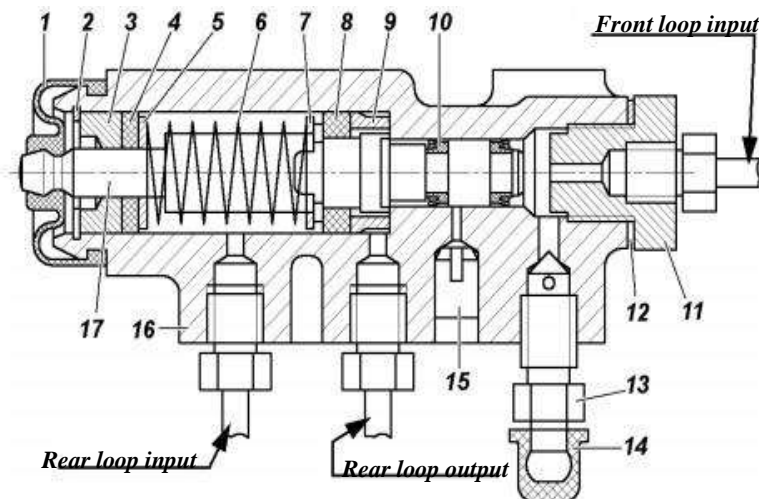
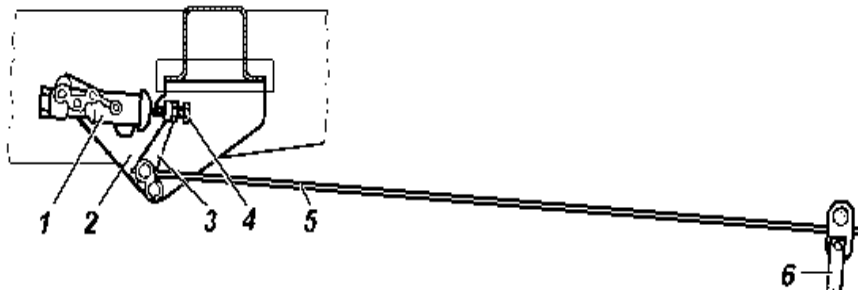

Fig. 9.30 Pressure regulator:
Fig. 9.31 Pressure regulator actuator:
Pressure regulator. Vehicles that are not equipped with anti-lock brakes have a mechanical pressure regulator acting on the rear brakes (fig. 9.30), which provides optimal distribution of braking forces on the axles of the vehicle and prevents the rear wheels from advanced locking. During service, check that the pressure regulator is operating properly. Clean any dirt from the regulator and check that it is securely fastened. Check externally that the regulator and its drive parts have no damages, there are no leakages of brake fluid, and there is no clearances in the connection between the rack and the springing arm and bracket on the rear axle.
When the brake pedal is depressed, the pressure regulator piston 17 (Fig. 9.30) should rise 1.7 - 2.3 mm out of the housing. Lack of piston stroke or insufficient or excessive piston stroke indicates a malfunction of the regulator or its actuator.
During operation and when replacing the rear springs it is necessary to adjust the force of the elastic lever 5 (Fig. 9.31) on the regulator piston. Adjust the headlights as follows:
2. Loosen the locknut of the adjusting bolt 4 (fig. 9.31) and loosen the bolt by 2-3 turns.
3. Screw the bolt 4 (Fig. 9.31) until it touches the piston shank 17 (Fig. 9.30) of the regulator.